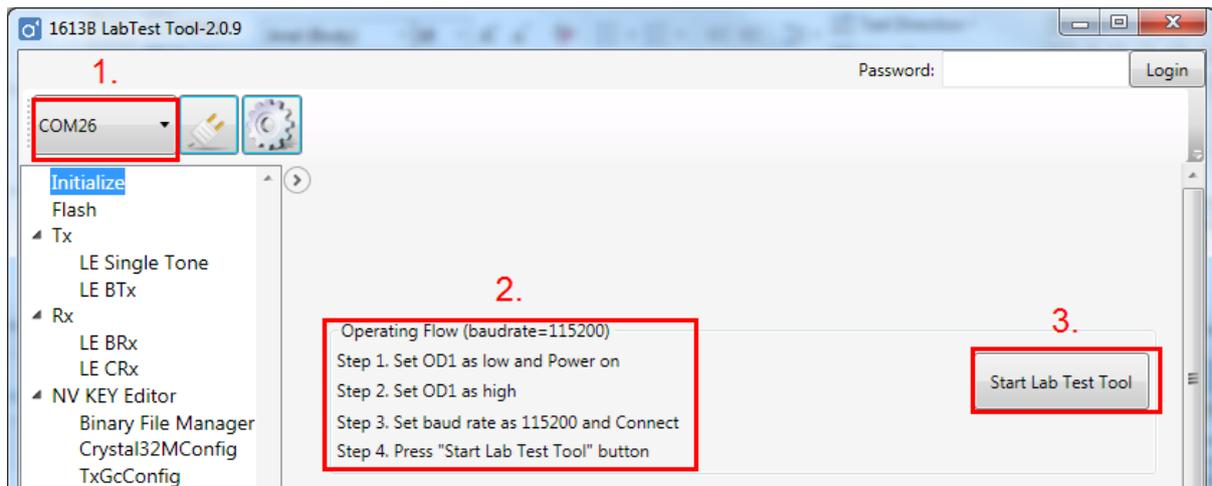

Figure 18. Into to Fixed frequency function setting
- 4) Select "Initialize" in the panel on the left, as shown in Figure 18.
- 7) Set the baud rate to 115200 and click the  button to enable the COM port and connect to AB161x, as shown in Figure 18.
- 8) Click the "start LabTest Tool" button, as shown in Figure 18.